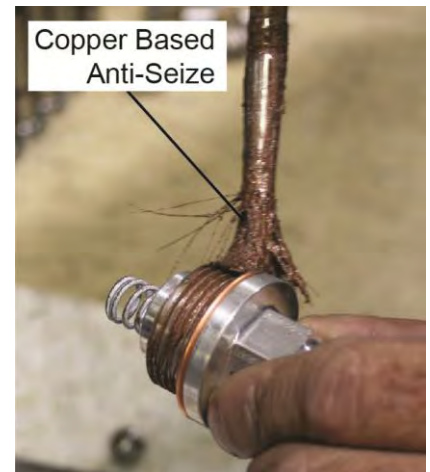

Figure 5
- C. Apply Copper-Based Anti-Seize to the threads of the oil pressure relief valve as shown in Figure 5.